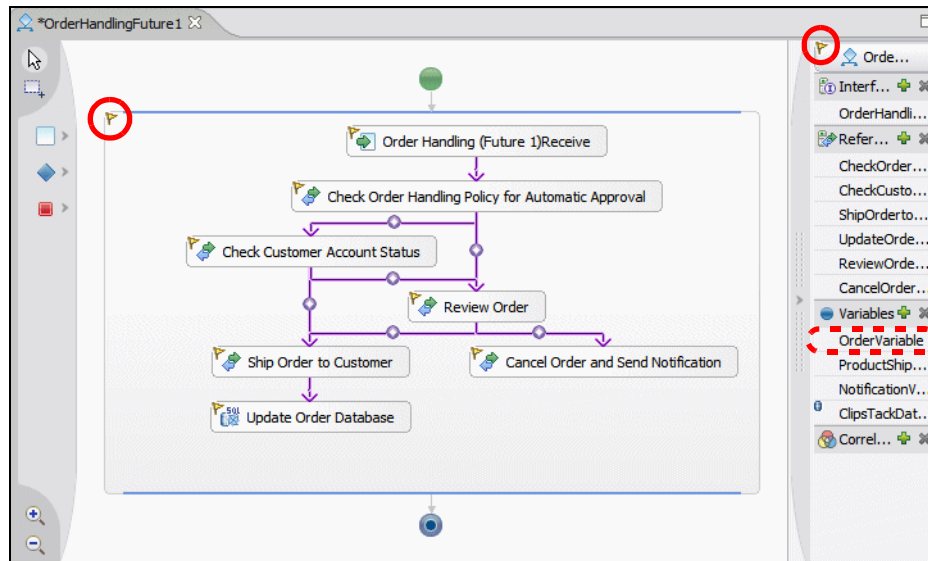
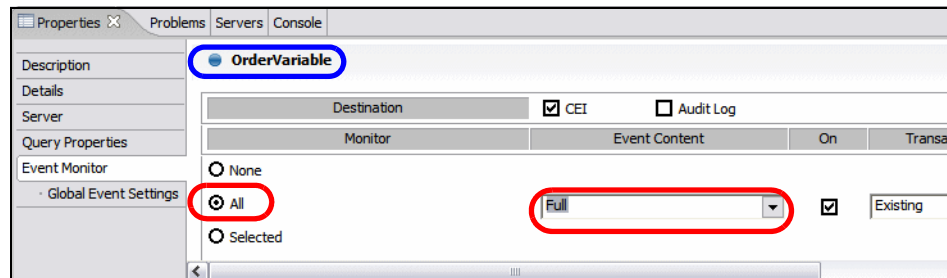

Figure 12-12 All process elements events are generated
Figure 12-13 CEI for Order Variable
Save the process, and all the elements and the process are flagged (Figure 12-12).
- ▶ Select `OrderVariable` under Variables (Figure 12-12), and configure the CEI event with `All` and `Full` (Figure 12-13).